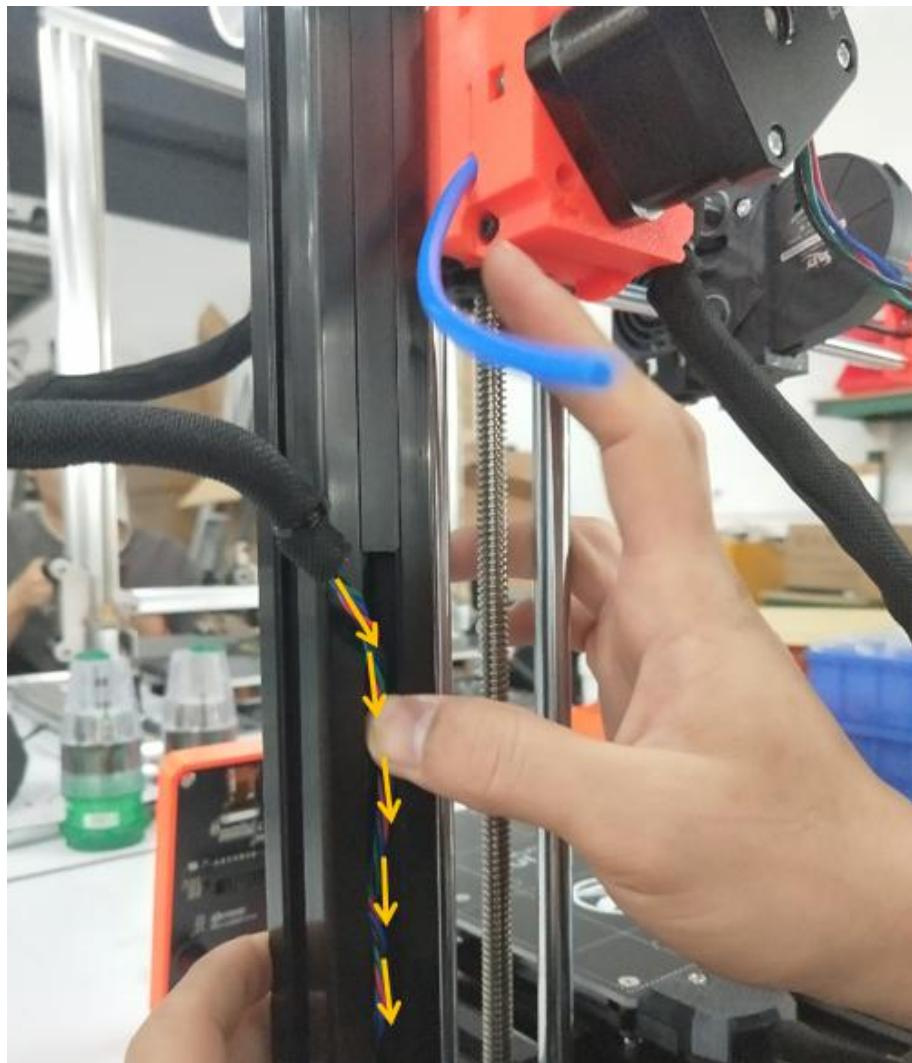

Figure 4.2.6
**Step 4-2-6:** As shown in Figure 4.2.6, the X-axis motor cable is embedded in the profile groove.